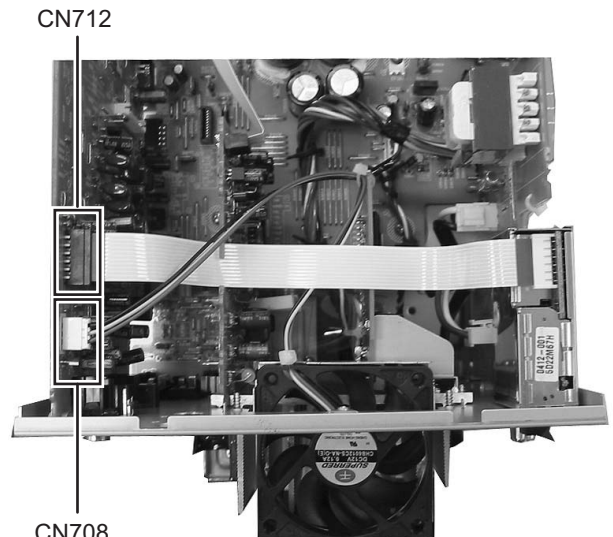

Fig.9
- (1) Disconnect the card wire from the connector CN712 on the main board. (See Fig.9)
- (1) Disconnect the connector wire from the connector CN708 on the main board. (See Fig.9)